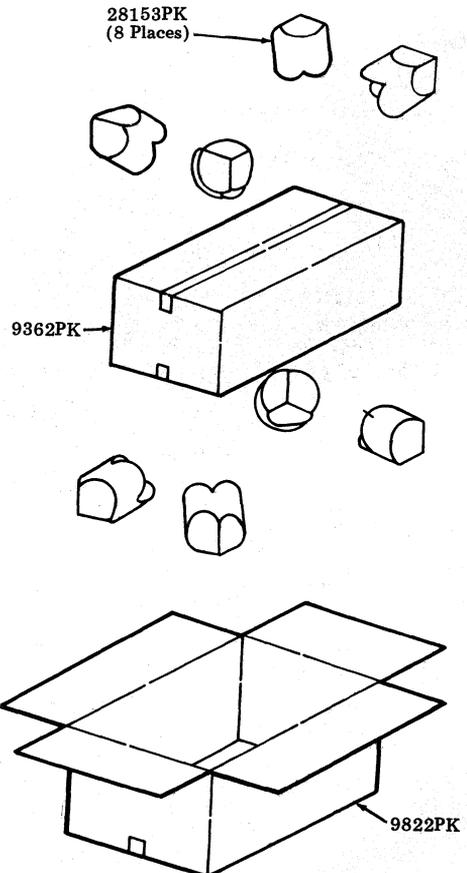
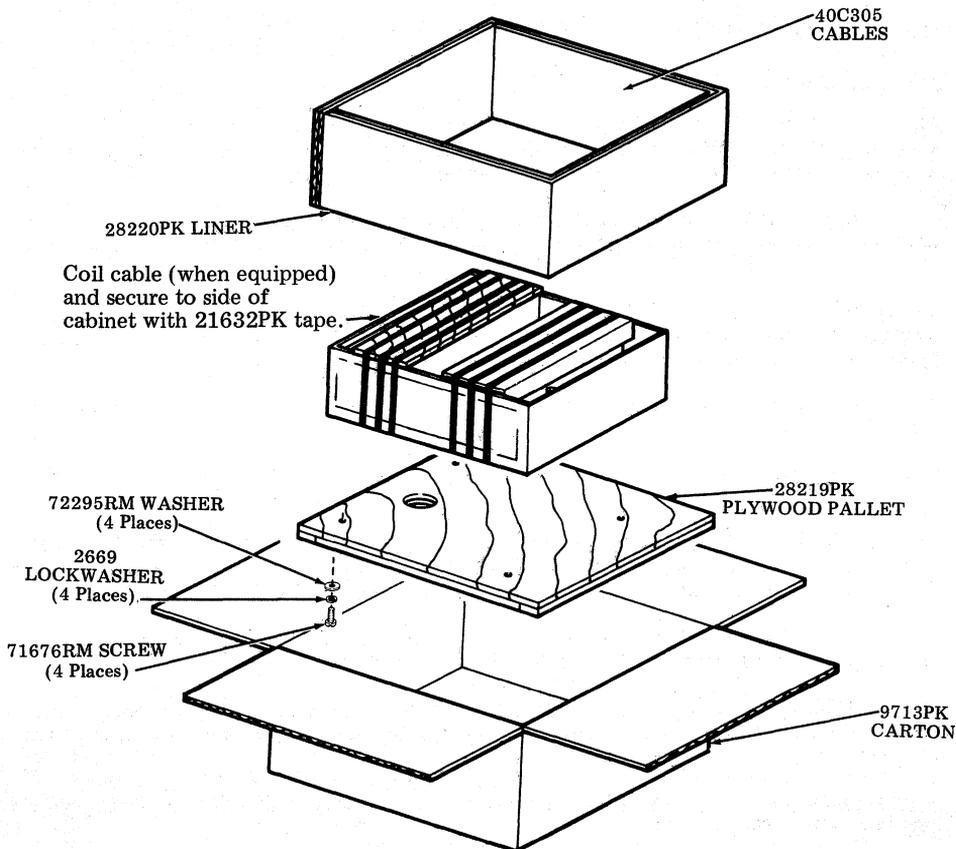

Fig. 55
Fig. 66
- Step 5. Form a 9822PK shipping container. Form bottom flaps outward and place over inner container as illustrated in Fig. 55.
- Step 6. Position a 28153PK corner detail on each of the four corners of the inner container as illustrated in Fig. 55.
- Step 1. Mount unit frame to a 28219PK plywood pallet with four 71676RM screws, four 2669 lock-washers and four 72295RM washers as illustrated in Fig. 55. The large hole in the pallet must be in line with the hole used to mount the PSU in the base. (See Fig. 66.)
- Step 9. Coil unit cable (when equipped) and secure to side of unit with 21632PK tape. Place palletized unit in carton. (See Fig. 66.)
- Step 10. Form a 28220PK liner and place in carton around unit. (See Fig. 66.)
- Step 13. Place cables between controller and 28220PK liner on side adjacent to fans. (See Fig. 66.)